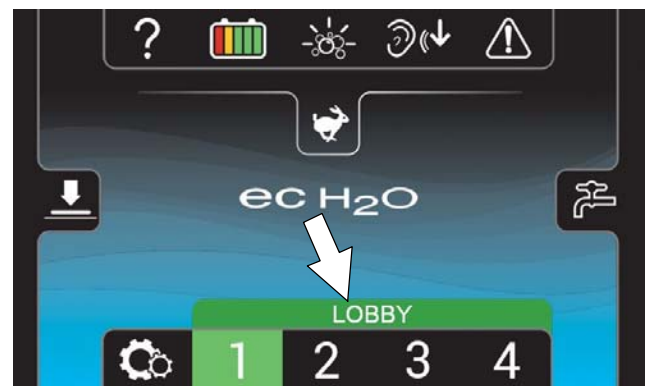

FIG. 67
4. The name will appear above the zone setting number when the zone button is pressed (Figure 67). Repeat process for other zone presets.